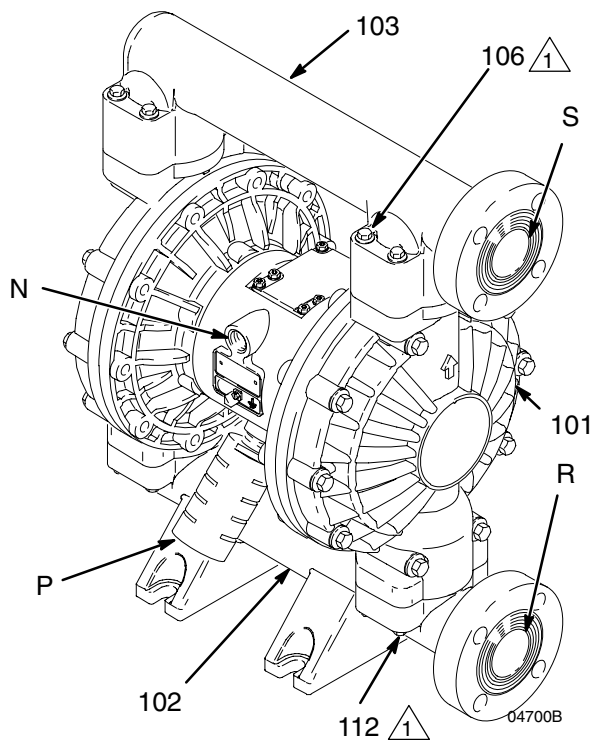

Fig. 4
The pump is shipped with the fluid inlet (R) and outlet (S) ports facing the same direction. See Fig. 4. To change the orientation of the inlet and/or outlet port:
1. Remove the screws (106 and 112) holding the inlet (102) and/or outlet (103) manifold to the covers (101).